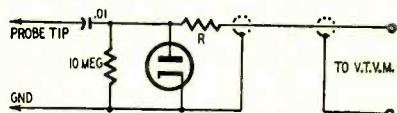

Fig. 4—A tube type rectifier probe.
v.t.v.m. These fall into three general classes, based upon voltage-handling capability and the type of indication they provide. Fig. 4 shows a tube type rectifier probe, which will handle moderately high voltages, and provide negative-peak voltage indication. The 0.01- μ f capacitor charges up to the negative-peak value of the applied a.c. waveform. R is an isolating and calibrating resistor; in its absence the cable capacitance would shunt down the diode and bypass the a.c. signal. The value of R must be properly selected to provide the desired scale indication—usually to indicate the r.m.s. voltage of a sine wave. The 10-megohm resistor is a bleeder, and is used to avoid undue lag in return of the meter pointer to zero. If very low frequencies are to be accommodated, the value of the 0.01- μ f capacitor must be increased correspondingly.